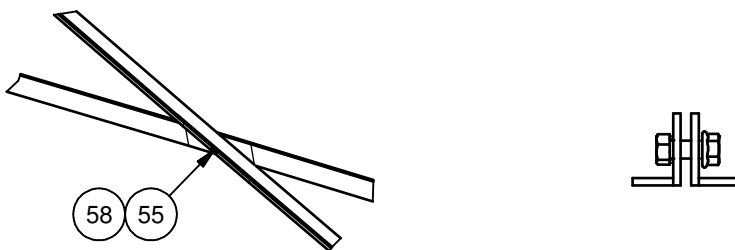

Figure 2
2. Pre-assemble the braces by laying them out in pairs. Place the angles in each pair back to back and connect with a 3/8" x 1" hex bolt and 3/8" Whizlock nut as shown in Figure 2. When assembling the 10 row bleachers, there are two lengths of braces required. Make sure equal length braces are paired in this step.